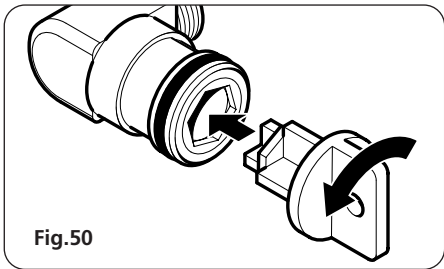

Fig.50
- 5 Insert the plastic tool provided into the inner sleeve located inside the elbow and twist anti-clockwise (fig.50). Take care not to damage the check valve. *NOTE: The sleeve may stick, in which case it must be carefully hooked out using a suitable tool such as an allen key.*